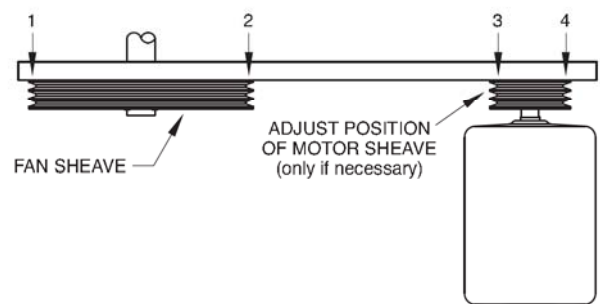

Figure 30 - Sheave Alignment Check
9. As a final check, lay a straight edge from sheave to sheave. There should be four point contact. (See Figure 30.) Adjust the position of the motor sheave as necessary.